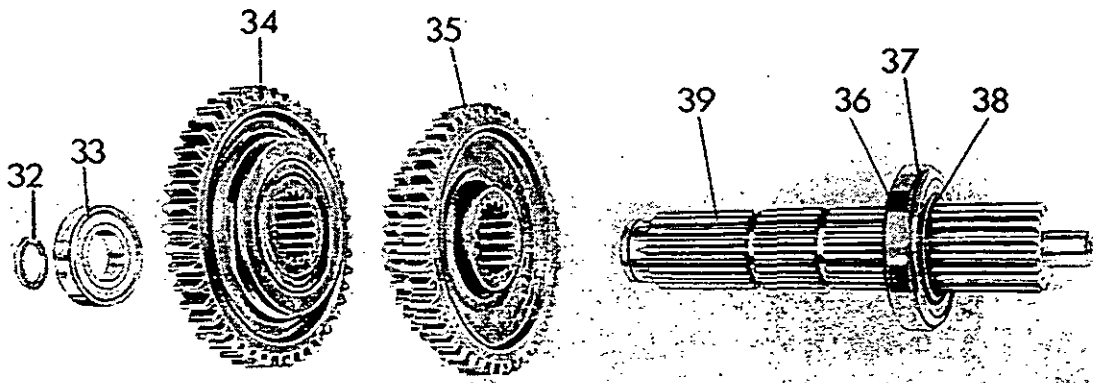
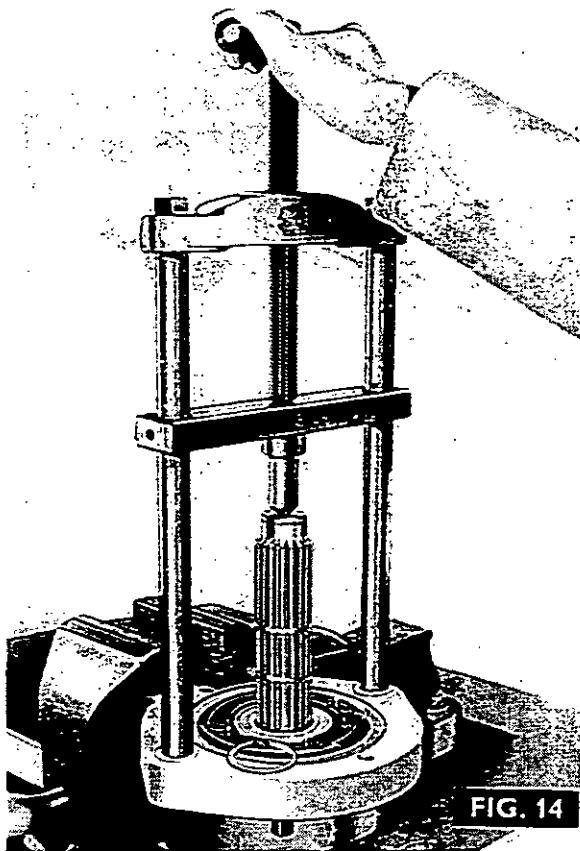

FIG. 13
FIG. 14
3. Figure 13. Feed the mainshaft into the transmission case from the rear, progressively fitting the third/second compound sliding gear (35) and the first reverse sliding gear (34). Insert the mainshaft through the centre bearing.
4. Drive the mainshaft forwards into the front bearing then fit the snap ring (32).
20. Remove the snap ring (27), then drive the p.t.o. input shaft (24), complete with its bearings (23 and 26) and oil seal (25) out of the housing.
21. Carefully remove the oil seals (22 and 25) from the housing (20) and the p.t.o. input shaft (24).
22. Remove the snap ring (28), then press the main input shaft and p.t.o. input shaft bearings (29, 23 and 26) off their respective shafts using the hand press MF200 and adapter MF 200-25.
23. Fig 13. Remove the snap ring (32) from the front end of the mainshaft (39).
24. Drive the mainshaft rearwards to release the front bearing (33) from its web in the gearbox, then drive the bearing off the mainshaft.
25. The mainshaft can then be withdrawn rearwards, removing the 1st/rev. gear (34) and the 2nd/3rd gear (35).
26. Fig 14. Remove the snap ring (36) and press off the bearing (37), using the MF200 hand press and the MF200-25 adapter, then remove the snap ring (38).
11. Fig 14. Refit the mainshaft rear snap ring (38) from the front end, then press the bearing (37) on to the mainshaft (39) using press MF200 and adapter MF200-25. Refit the second snap ring (36).
12. Refit the mainshaft centre bearing (33) to the web in the transmission case.
13. Fig 13. Feed the mainshaft into the transmission case from the rear, progressively fitting the third/second compound sliding gear (35) and the first/reverse sliding gear (34). Insert the mainshaft through the front bearing.
14. Drive the mainshaft forwards into the front bearing then fit the snap ring (32).